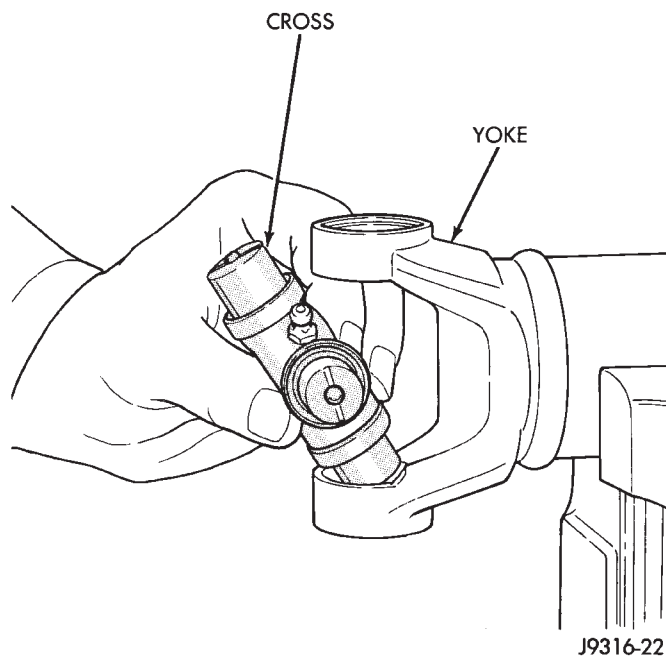

Fig. 18 Install Cross In Yoke
(1) Apply extreme pressure (EP) N.L.G.I. Grade 1 or 2 grease to inside of yoke bores to aid in installation.
(2) Position the cross in the yoke with its lube fitting, if equipped, pointing up (Fig. 18).